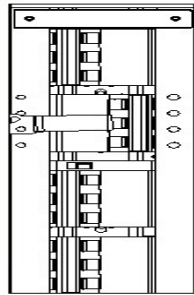

Figure 5-13 Moving the baffle upwards
1. Remove the maintenance bypass switch baffle retaining screws, rotate the baffle upwards until it is locked in position, and then fasten the retaining screws. As shown in Figure 5-13.